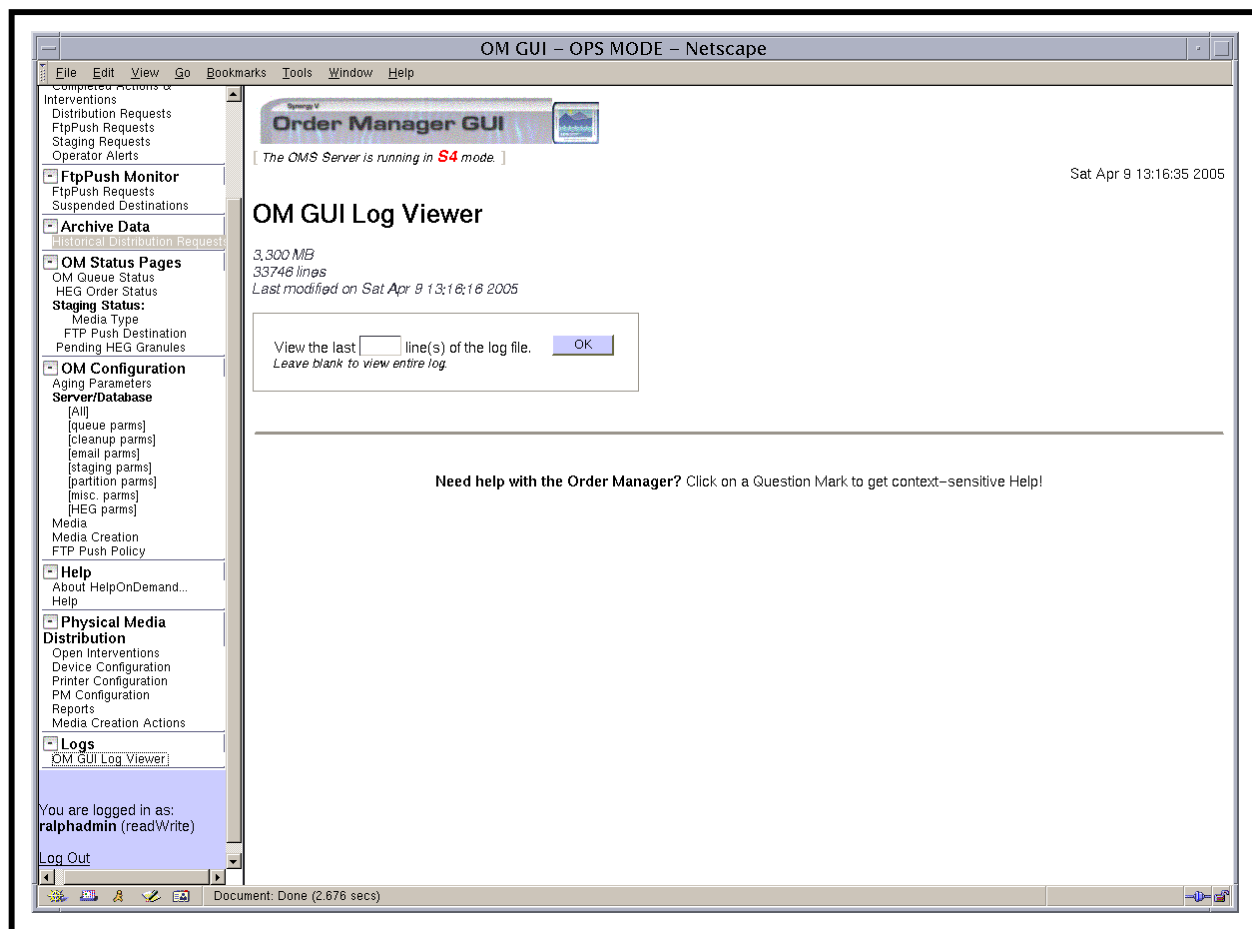

Figure 71. OM GUI Log Viewer Page
The **OM GUI Log Viewer** page (Figure 71) provides the Distribution Technician with a means of checking entries in the OM GUI log. The log file that the log viewer displays is located under the cgi-bin/logs directory where the **OM GUI** is installed. It is not the web server log or the SYSLOG. It is a log that is specifically generated by and for the **OM GUI**.
- 2 If the **OM GUI Log Viewer** page (Figure 71) is not already being displayed, click on the **OM GUI Log Viewer** link in the navigation frame of the **OM GUI**.
- The **OM GUI Log Viewer** page (Figure 71) is displayed.